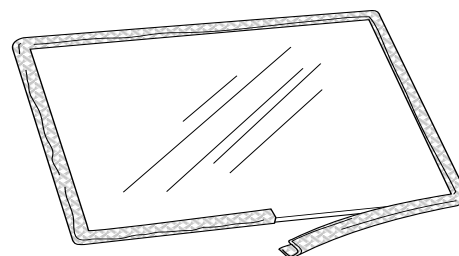

Figure 10.2. Wrap the gasket around the glass panel.
1. Wrap the new gasket material evenly around the edge of the glass, peeling back the protective strip to expose the adhesive as you go. See fig. 10.2. Press the adhesive side down onto the glass surface. Do not stretch the gasket.